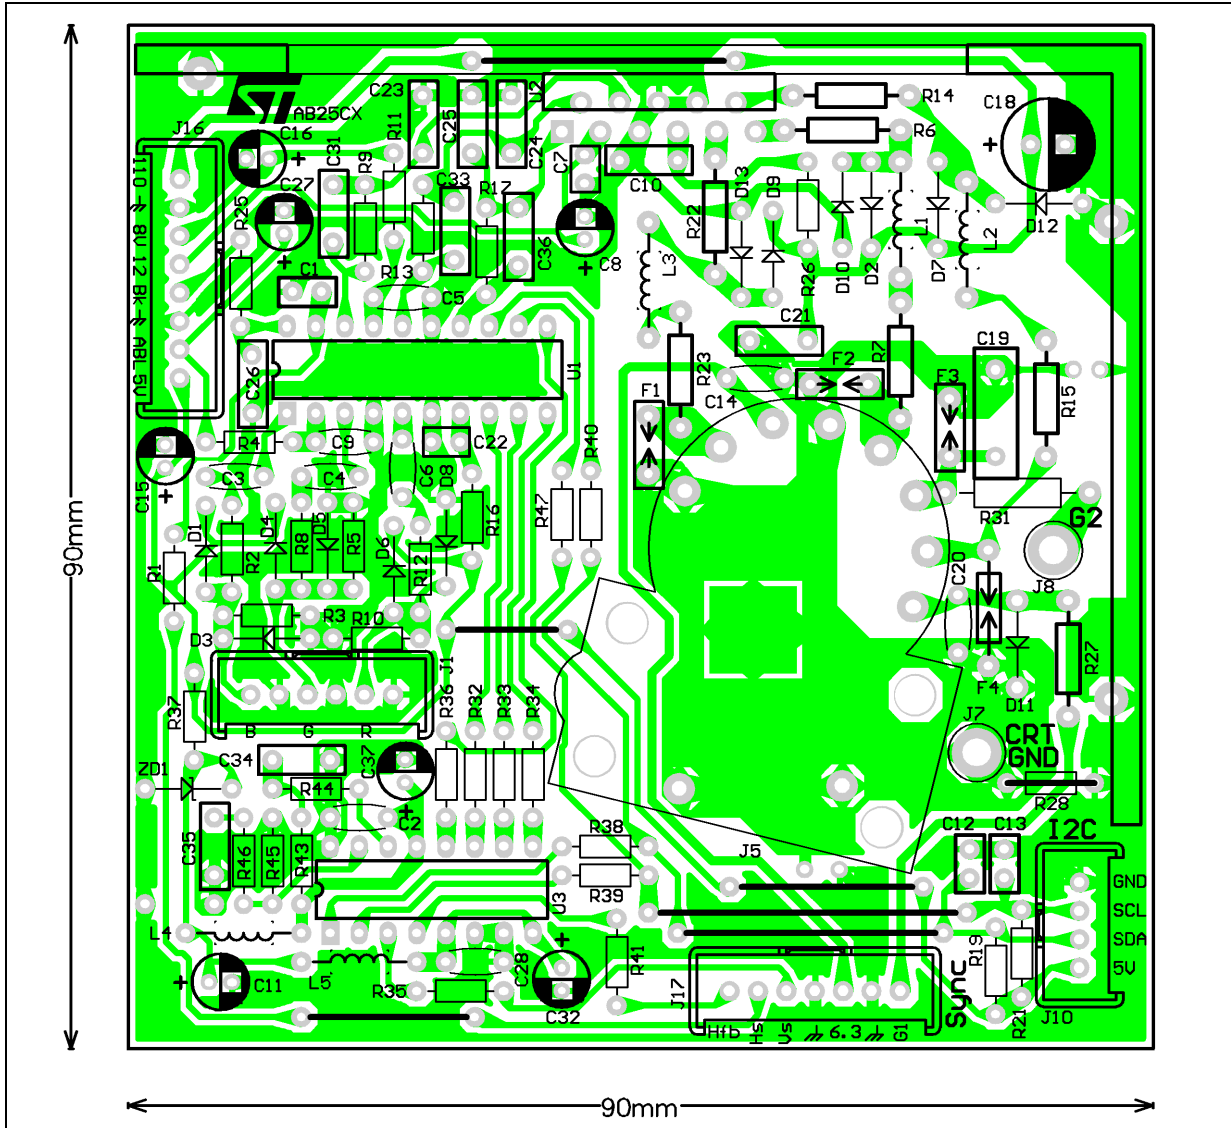

Figure 21. Outputs trace (from figure 19)
**Cross talk:** Output and input tracks must be set apart. The STV9553 pin-out allows the easy separation of input and output tracks on opposite sides of the amplifier (see Figure 21).